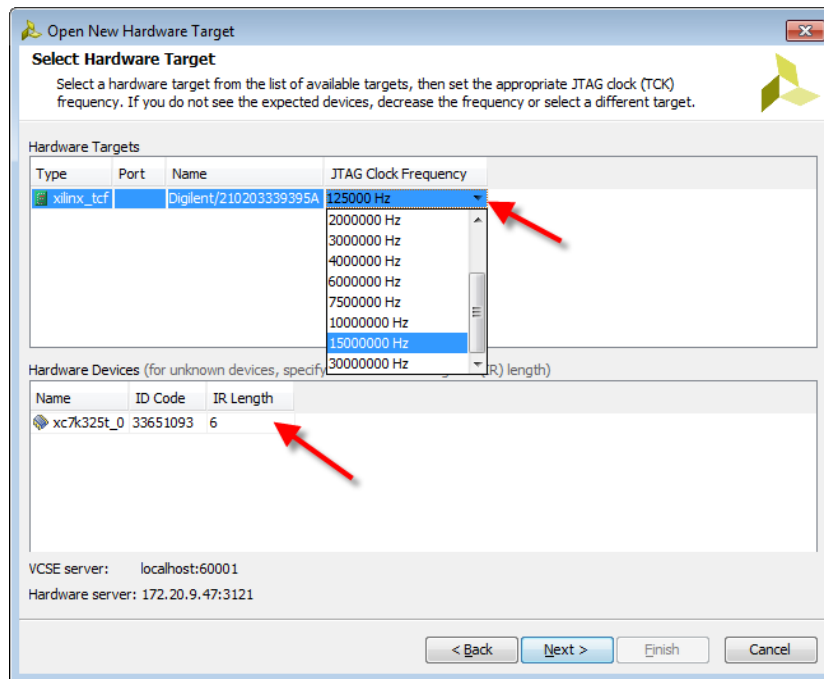

Figure 2-14: Selecting a Hardware Target
2. Select the appropriate hardware target from the list of targets that are managed by the hardware server. Note that when you select a target, you see the various hardware devices that are available on that hardware target (see Figure 2-14).
- If you are not able to correctly identify the hardware devices on your target, it might mean that your hardware is not capable of running at the default target frequency. You can adjust the frequency of the TCK pin of the hardware target or cable (see Figure 2-14). Note that each type of hardware target may have different properties. Refer to the documentation of each hardware target for more information about these properties.
- While the Vivado hardware server will attempt to automatically determine the instruction register (IR) length of all devices in the JTAG chain, in some rare circumstances it might not be able to correctly do so. You should check the IR length for each unknown device to make sure it is correct. If you need to specify the IR length, you can do so directly in the **Hardware Devices** table of the **Open New Hardware Target** wizard (see Figure 2-14).